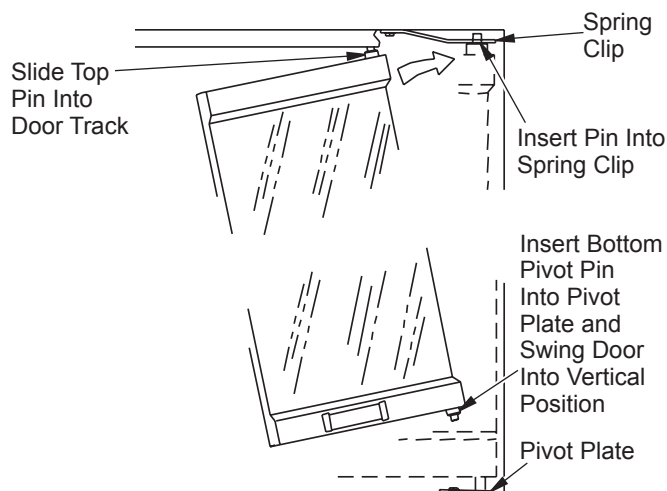

Figure 35 - Installing Optional Glass Door
2. With the handle facing the center of the firebox opening, insert the lower pivot pin on the glass door panel into the hole in pivot plate on the bottom edge of the fireplace opening (see Figure 35).
4. Tilt the glass assembly fully vertical until the outer pivot pin snaps into the mounting hole in the upper spring clip (see Figure 35).